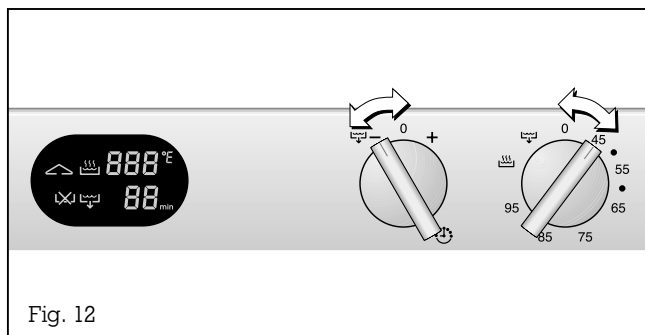

Fig. 12
- Turn the "Temperature" control knob to the 0 position. The "child lock" symbol on the display goes off (Fig. 12).